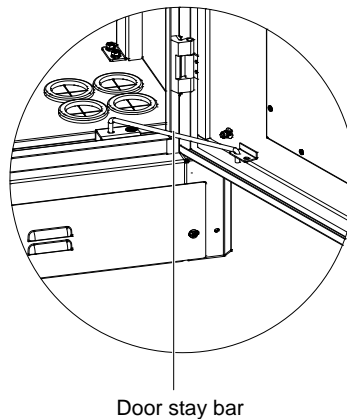

Figure 2-15 Position of door stay bar
4. After the door is open, the door stay bar will restrain the door manually. You can adjust the angle twice, first time 90° and the second time 110°. The door stay bar is shown in Figure 2-15.